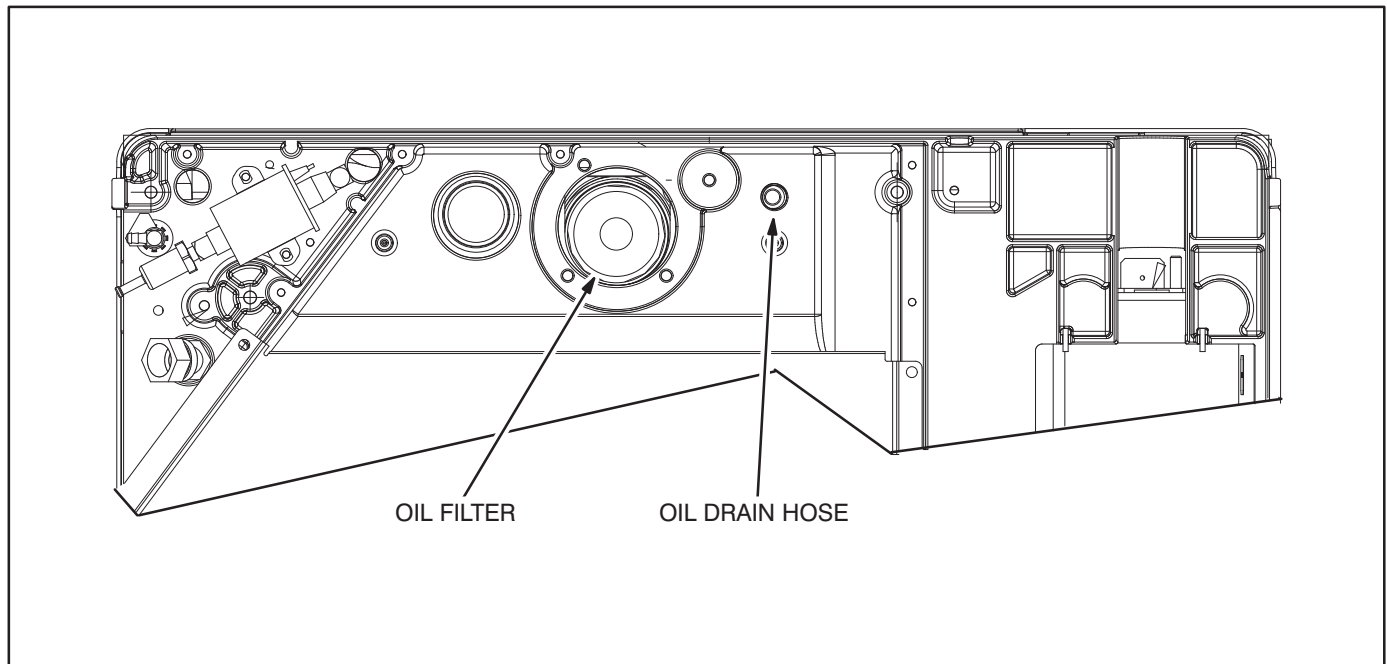

FIGURE 11. OIL FILTER AND DRAIN HOSE—VIEW FROM BELOW OF FRONT EDGE OF GENSET
1. Place a pan underneath the oil drain hose and filter (Figure 11). (The genset may have been installed with a remote oil filter.) Run and then stop the engine when it is warm.